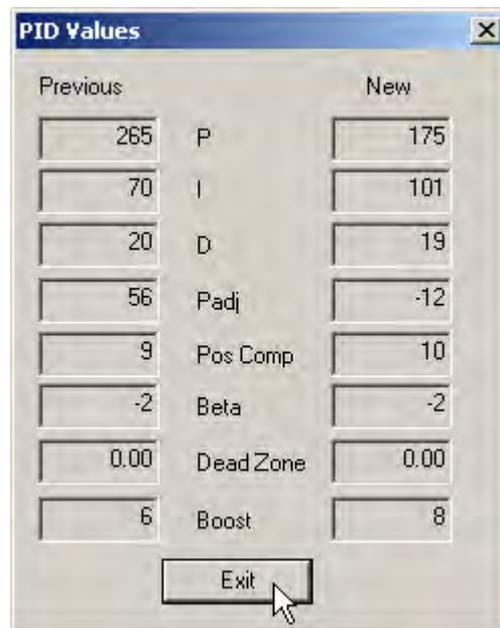

Figure 121 New PID Values After Setup Wizard Calibration
After you close the *Setup Wizard Diagnostic Graph*, the *PID Values* window appears (Figure 121).
- Close the window by clicking **Exit** (Figure 121).